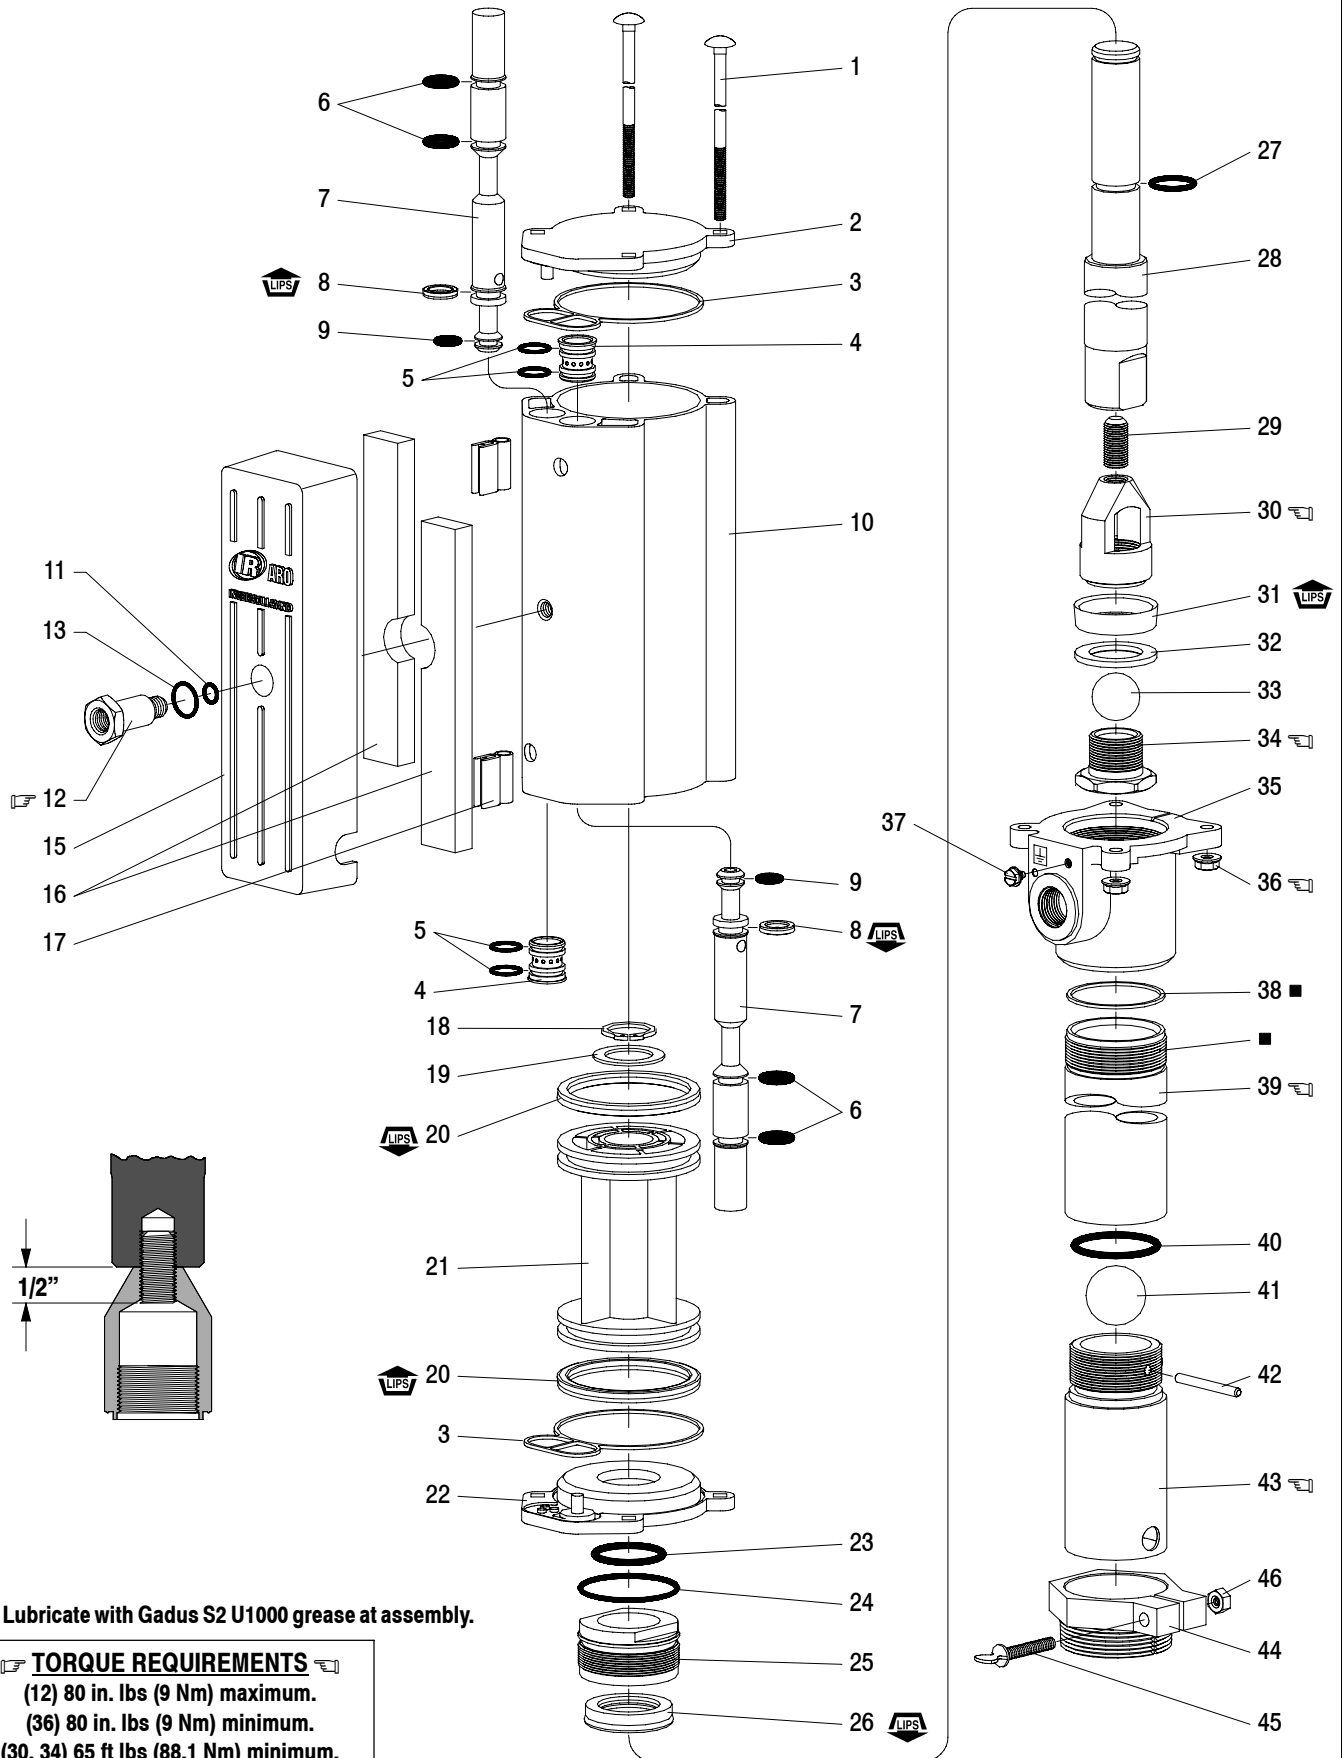

Figure 2
**NOTE: All threads are right hand. Refer to figure 2 (page 3). Disconnect air supply and relieve all system pressure prior to servicing.** Carefully remove the parts, inspect for damage, nicks or excessive wear and determine if any parts will need replacement.
- Using a 7/8" wrench, unthread and remove (12) adapter and (11 and 13) "O" rings, releasing (15) muffler housing.
- Using a 7/16" wrench, remove (36) nuts.
- Remove four (1) bolts, (2) upper cap and (3) gasket.
- Remove (10) cylinder, containing (4) sleeves and (7) spools.
- Using (1) bolt, push (7) spools and (4) sleeves out "sleeve" end of (10) cylinder.
- Pull up on (21) piston and (22) lower cap, allowing access to (25) bushing.
- Using a 1-5/8" wrench, unthread (25) bushing and pull (28) piston rod and components from pump.
- Clamp on flats of (28) piston rod in a vise. Using an 11/16" wrench on flats of (30) cup follower, unthread and remove from (28) piston rod.
- Clamp on flats of (30) cup follower in a vise. Using a 1-1/2" wrench, unthread and remove (34) inner check seat, releasing (32) washer, (33) ball and (31) piston cup.
- Remove (25) bushing from (28) piston rod.
**NOTE: Thoroughly clean and lubricate all seals. Replace all soft parts with new ones included in the repair kit.** Note: Refer to the illustration (figure 2, page 3) for "U" cup lip seal direction.
- Replace (27) "O" ring on (28) piston rod.
- Replace (20) "U" cups on (21) piston and assemble (21) piston onto (28) piston rod, securing with (19) washer and (18) retaining ring.
- Assemble (3) gasket to (22) lower cap and assemble (22) lower cap and (23) "O" ring onto (28) piston rod.
- Assemble (33) ball and (31) piston cup to (30) cup follower, securing with (32) washer and (34) inner check seat.
- Replace (26) packing in (25) bushing.
- Replace (24) "O" ring on (25) bushing and assemble (25) bushing onto (28) piston rod.
- Clamp on flats of (28) piston rod in a vise.
- Assemble (29) rod and (30) cup follower to (28) piston rod and tighten by using a 1-1/2" wrench on (34) inner check. NOTE: Torque (34) check seat to 65 ft lbs (88.1 Nm).
- Clamp (39) tube horizontally in a vise.
- Assemble (28) piston rod and components into (35) base.